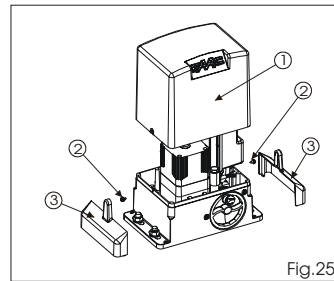

Fig. 25
Return the board support to its original position. Fit the cover (Fig. 25 ref. 1), tighten the two side screws provided (Fig. 25 ref 2) and snap-fit the side panels (Fig. 25 ref.3).